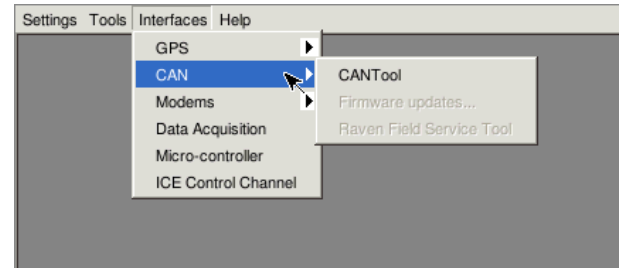

Figure 1 Open CANTool.
Use key combination SHIFT + SBGuidance to open the Configurator from the Loader application. Start SBGuidance Configurator and navigate to CAN > CANTool to open the CANTool (Figure 1).
2. Go to *Interfaces > CAN > CANTool* (Figure 1).